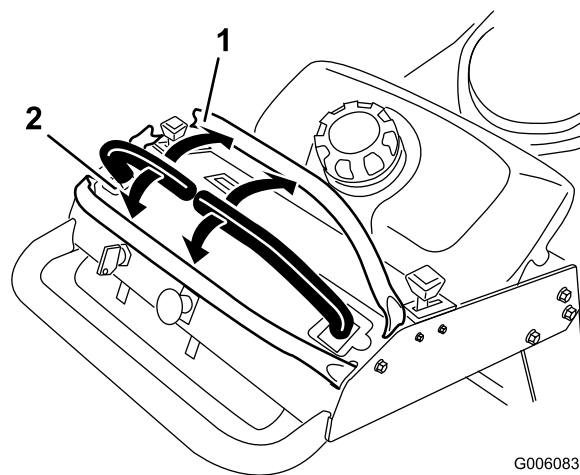

Figure 9
- To go forward, slowly push the motion-control levers forward (Figure 9).
To go straight, apply equal pressure to both motion-control levers (Figure 9).
To turn, move the motion-control lever toward the Neutral position in the direction you want to turn (Figure 9).
- To go backward, slowly pull the motion-control levers rearward (Figure 9).
To turn, release pressure on the motion-control lever toward the direction you want to turn (Figure 9).